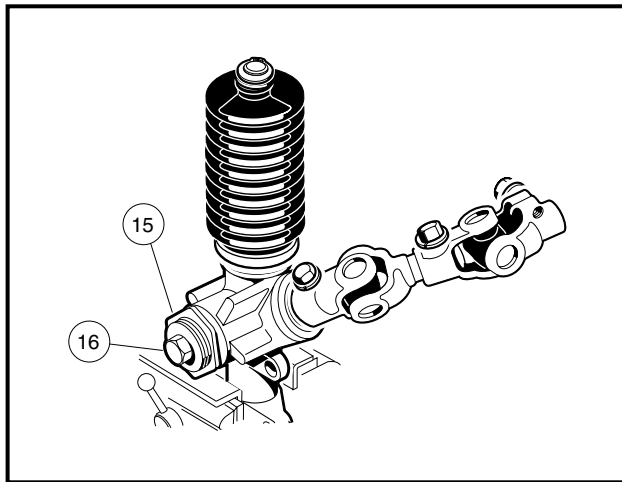

Figure 7-14 Rack and Pinion Adjustment
- 12.4. If measured resistance does not equal 7 to 15 in-lb, loosen the lock nut (15) and tighten the screw (16) until it bottoms out, then back the screw off one quarter turn. Tighten the lock nut to 28 ft-lb (38 N·m) **(Figure 7-14, Page 7-12)**. See following NOTE.
NOTE: When tightening the lock nut (15), make sure the screw (16) does not change adjustment **(Figure 7-14, Page 7-12)**.